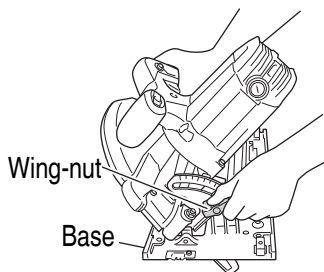
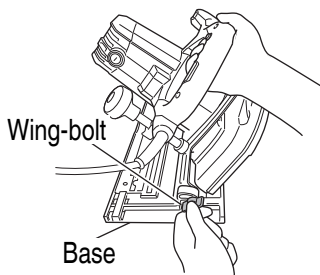
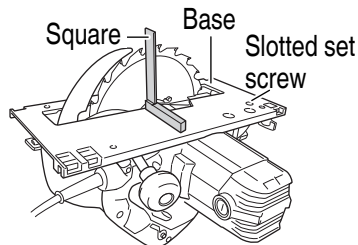

Fig. 6
Fig. 7
Fig. 17
As shown in **Fig. 6**, **Fig. 7** by loosening the wing-nut on the incline gauge and the wing-bolt on the base, the saw blade may be inclined to a maximum angle of 45° in relation to the base. After having completed the adjustment, reconfirm that the wing-nut and the wing-bolt are firmly tightened.
- (1) Turn the base face up (**Fig. 17**) and loosen the wing-nut and wing-bolt (**Fig. 6, 7 on page 25**).
- (2) Apply a square to the base and the saw blade and turning the slotted set screw with a slotted-head screwdriver, shift the position of the base to produce the desired right angle.